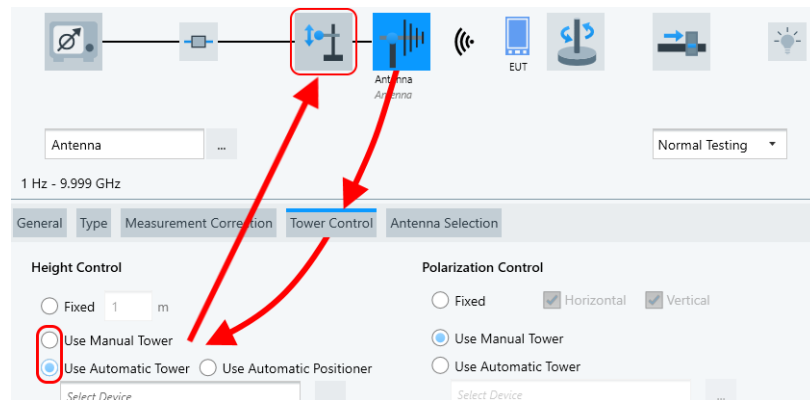

Figure 4-138: Integrating an antenna tower into the Electric Field Strength hardware setup
- c) Select a manual or automatic tower for height control, as in Figure 4-138. Optionally configure the tower properties.